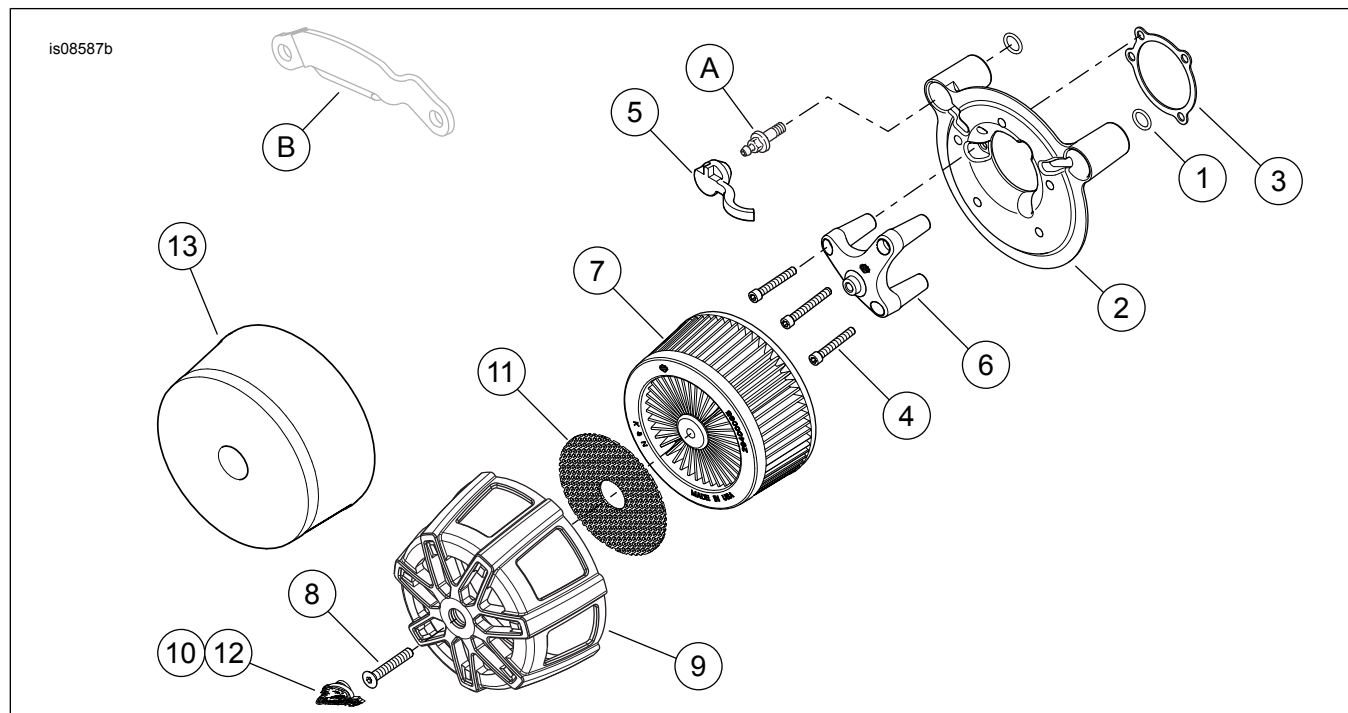

Figure 1. Service Parts, Screamin' Eagle Performance Air Cleaner Kit
See Figure 1 and Table 1.
3. Remove the currently installed air cleaner. Refer to the service manual or the instructions for **THAT** air cleaner. See Figure 1. Save the two breather screws (A) from the backplate. The remaining parts can be recycled or properly disposed of.
4. Remove and discard the induction module bracket (A).
1. See Figure 1. Install two O-rings (1) from kit in grooves around breather screw holes on induction module side of backplate assembly (2).
2. Align the holes in the gasket (3) with holes in the backplate, and install on the induction module side of the backplate.
6. Thread air cleaner mounting screws (4) through the mounting bracket (6) and into the backplate (2) until the screw threads are captured in induction module. Do not fully tighten at this time.
7. Alternately secure two breather screws (5). Tighten.
1. See Figure 1. Install the air cleaner element (7) and cover (9). Before tightening the center screw, align the cover using the medallion for best appearance, then secure center screw. Tighten.